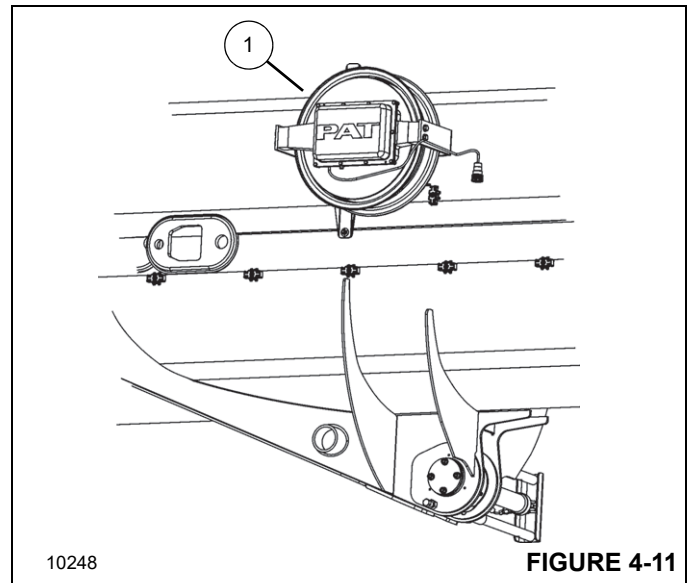

FIGURE 4-11
- The cable drum (1, Figure 4-11) on the left side of the main boom.